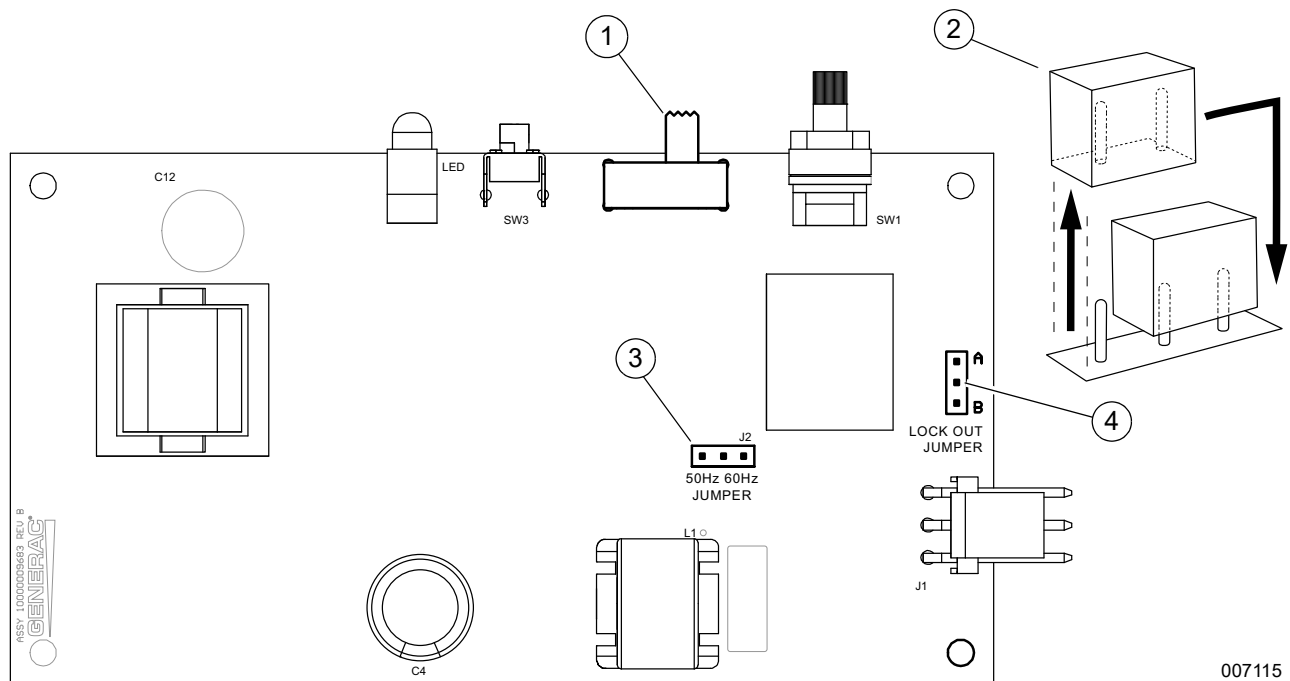

Figure 2-2. Jumper Locations
See Figure 2-2. To set SMM to enable standard lockout mode, slide lockout switch (1) to LOCKOUT LOAD ON GENERATOR.
See Figure 2-2. The SMM control board is equipped with two movable jumpers (2). Jumper locations are indicated on the diagram:
- (3) Frequency Jumper - default for 60 Hz
- (4) Mode Selector Jumper (identified on control board as “Lock Out Jumper”) - position A is default for most applications
**NOTE:** Change in jumper (4) is only required for specific applications and should not be moved under normal circumstances. If unit is installed in an area with unstable frequency power, change the lockout jumper (4) to position B.
**IMPORTANT NOTE:** Jumper (3) should remain in place unless in an area with 50 Hz power.